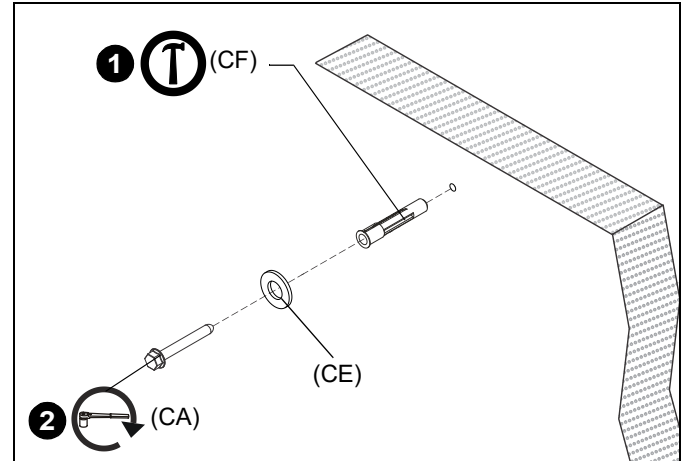

Figure 32
1. Install one UX10X60R anchor (CF) into each pilot hole using a hammer, making sure that the anchor is flush with the wall. (See Figure 32)
2. Use one 5/16" x 2-1/2" hex flange head lag bolt (CA) and 5/16" washer (CE) through product into each anchor in wall. (See Figure 32)